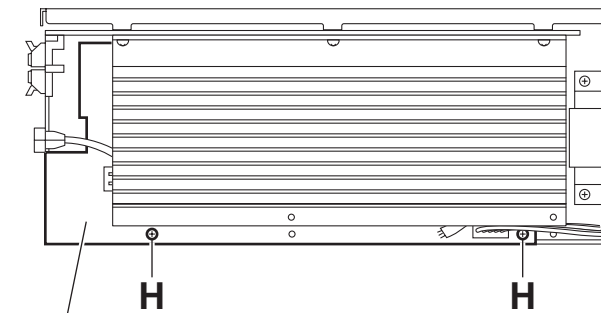

Fig.8
### 3.4.5 Removing the mother board (See Figs.8 and 9)
- (1) From the top side of the amplifier assembly, remove the two screws **H** attaching the mother board. (See Fig.8)